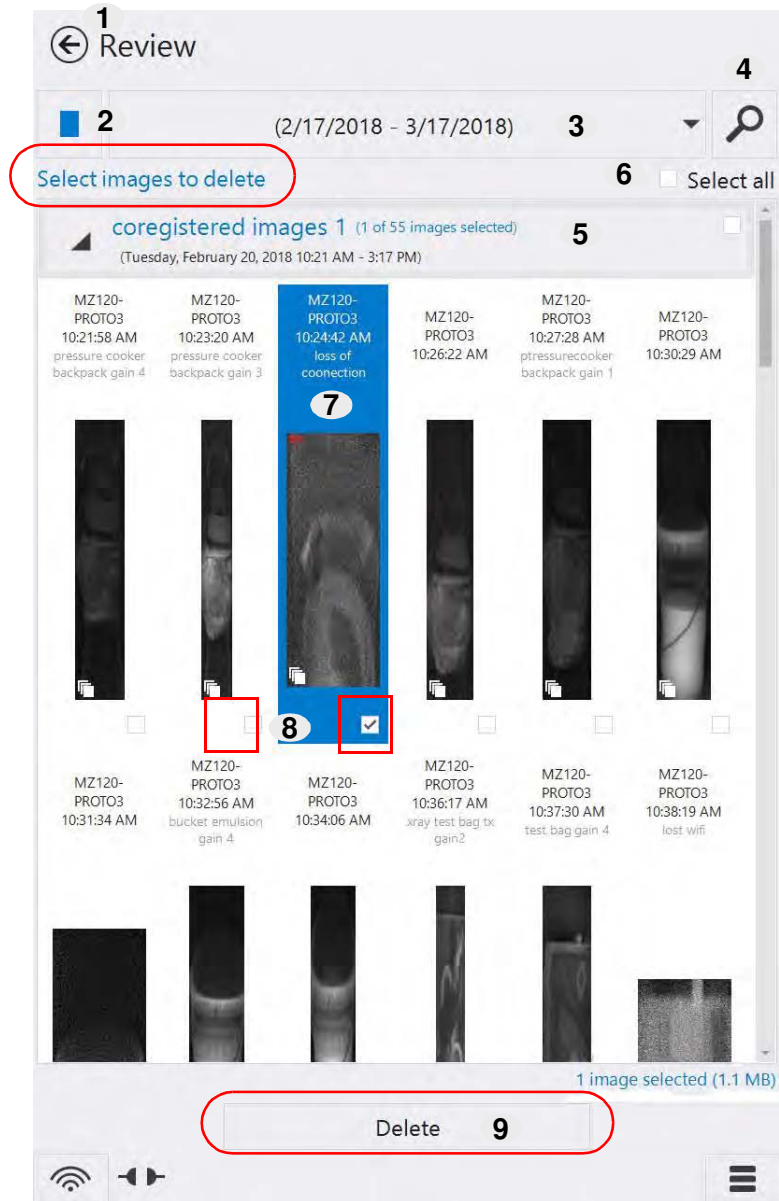

Figure 5-5: Review Search Mode and Image Delete Screen Layout. The buttons are described in Table 5-5.
Search mode of the Review screen, shown in Figure 5-5. In the Search mode, double-tap the image of interest to show it in the View mode.
The Review Search mode and image delete screen layout is shown in Figure 5-5. It allows the user to use search criteria to find images. The images or groups that match the search criteria are displayed in galleries. Groups of images can be deleted or individual images can be selected for viewing.
Table 5-5: Review Search Mode Screen Description (refer to Figure 5-5)
Table 5-5: Review Search Mode Screen Description (refer to Figure 5-5) (continued)
- The **Status Overview** mode screen (Figure 5-5) displays basic error conditions, faults, and system warnings, if any exist.
The Status Overview mode screen (Figure 5-5) displays basic error conditions, faults, and system warnings, if any exist. Tap the Status button  to return to the previous (non-Status) screen.